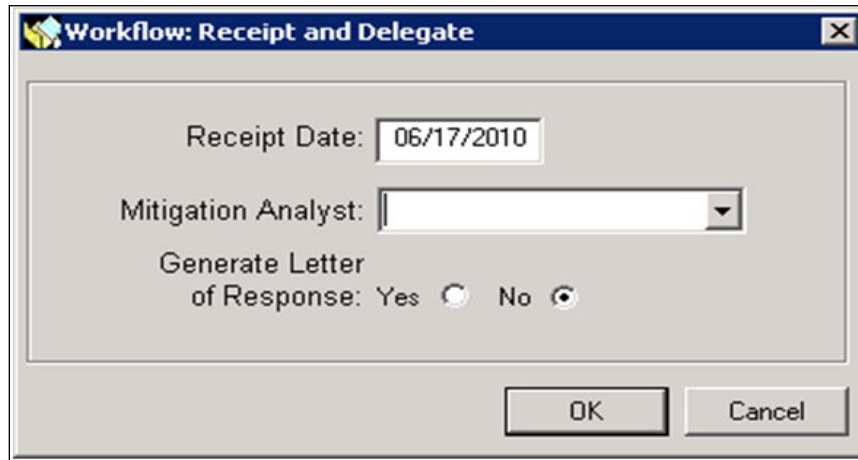

Figure 7-11: Receipt and Delegate Dialog Box
- On the bottom left part of the Overall Review tab, click the COMPLETE WORK STEP button. The Workflow Receipt and Delegate dialog box is displayed (Figure 7-11).